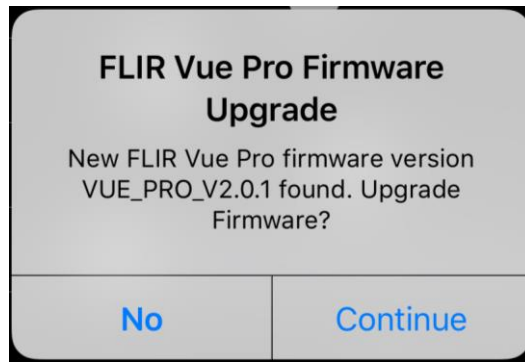

Figure 22. Firmware Upgrade
4. Start update process. Open the Vue Pro app and connect to the camera. The app will read the camera's settings, then display the Firmware update message (Figure 22). Select "Yes" to begin the update. The Bluetooth light will flash purple for 30-45 seconds while it's updating, then the camera will re-boot. During this time, you will see an Upgrading message, and then the Bluetooth disconnect message. It is important to NOT remove power to the camera during the upgrade process.